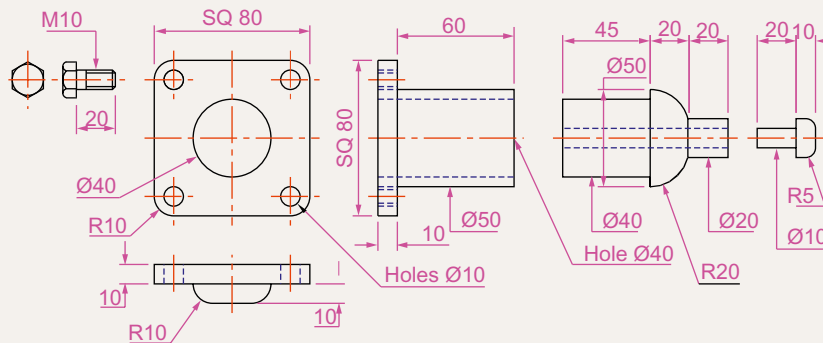
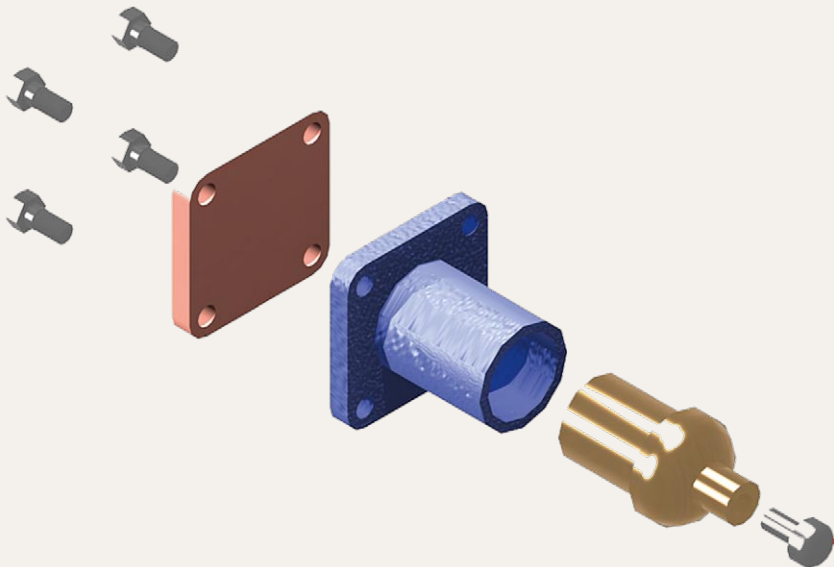

Fig. 19.24 Exercise 4 – details of shapes and sizes
Fig. 19.25 Exercise 5 – an exploded rendered model
- Construct an assembled 3D model drawing working to the details given in Fig. 19.24. When the 3D model drawing has been constructed disassemble the parts as shown in the given exploded isometric drawing (Fig. 19.25).